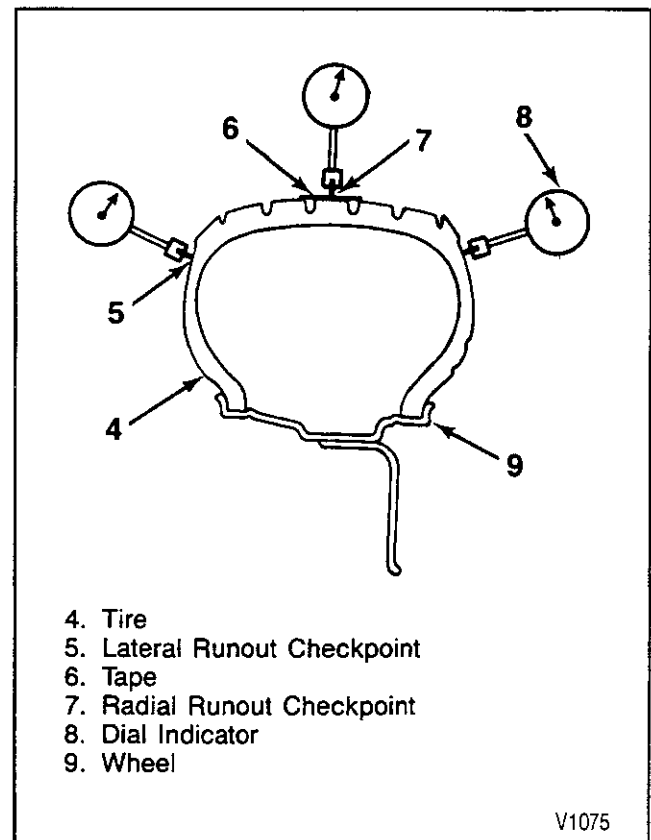

Figure 12—Measuring Radial and Lateral Runout
4. Using a dial indicator with a magnetic base and a roller tip, position it on the balancer so the different runout checks can be done (figure 12).